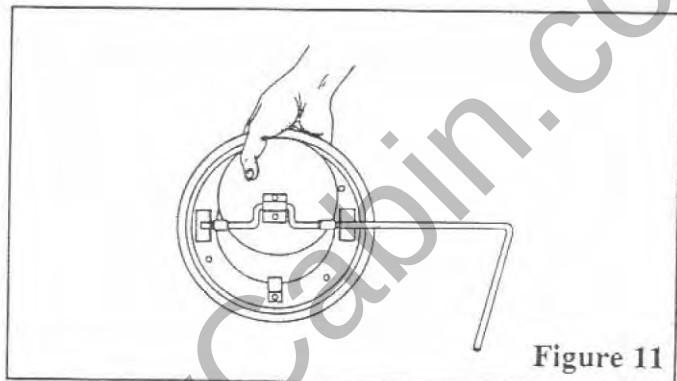

Figure 11
STEP 4: Hold the air gate in the left hand as shown in Figure 11.